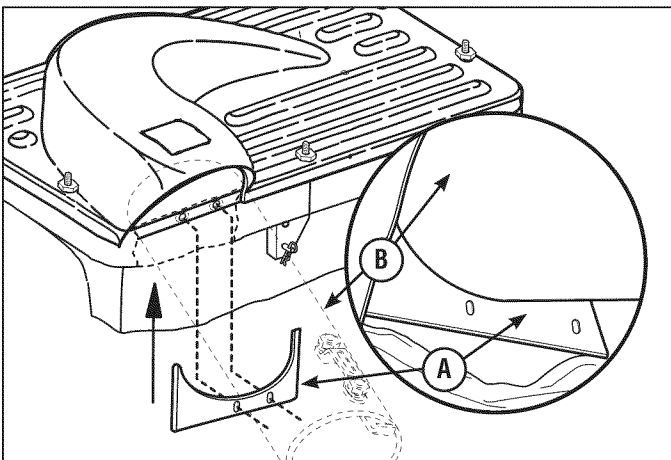

Figure 15
2. Place debris shield (A, Figure 15) under the catcher tube (B) with the offset hole pattern towards the center of the tractor